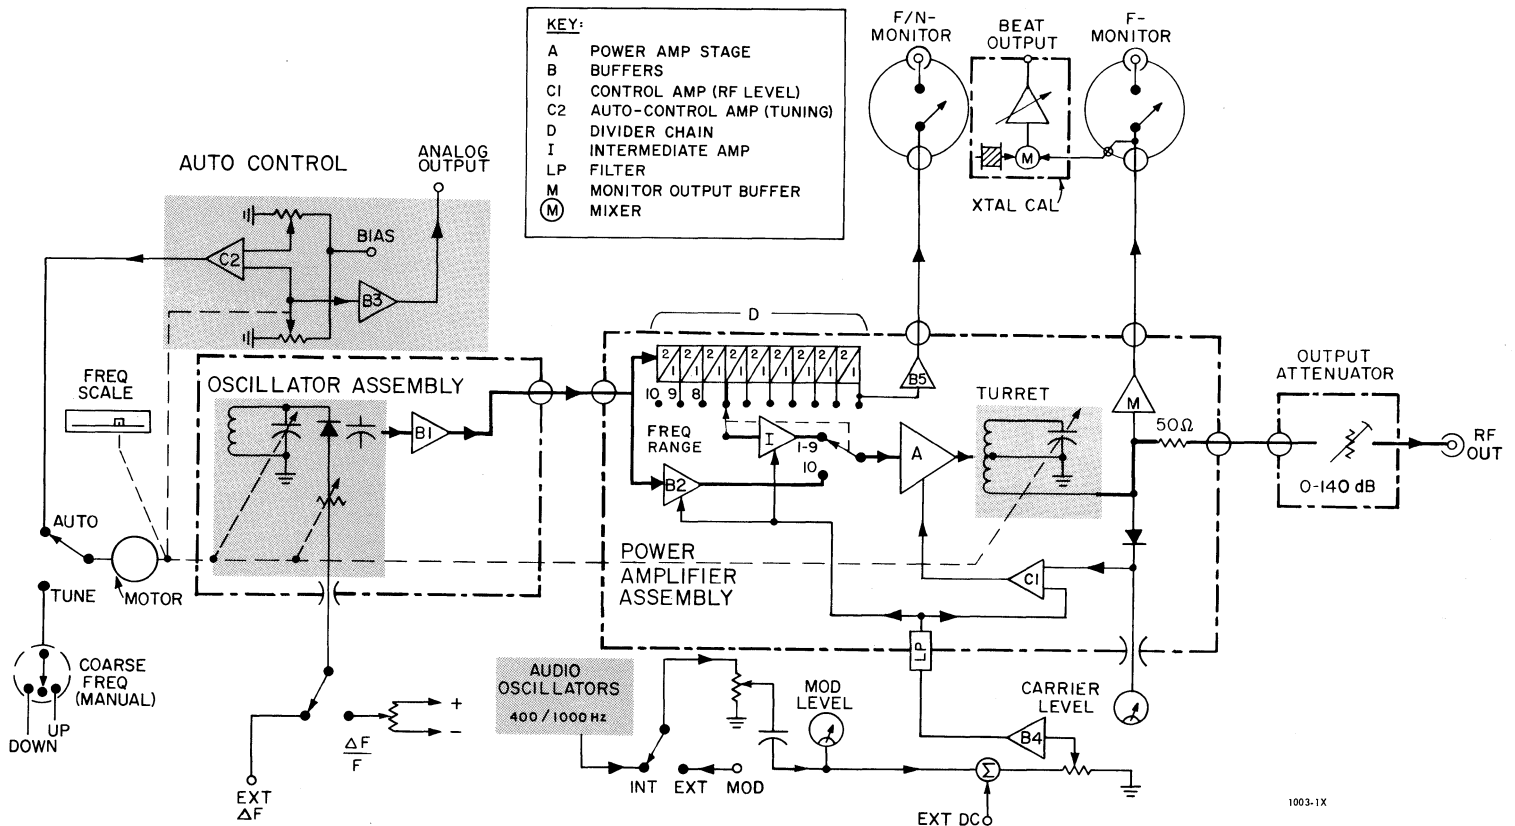

Figure 4-1. Elementary block diagram.
Refer to Figure 4-1, the elementary block diagram for the 1003 Standard-Signal Generator, for the following discussion. The heavy lines in this diagram show the flow of the main rf signal from its source in the oscillator assembly to the final output from the attenuator.
4.2.1 GENERAL (Figures 4-1 and 6-1).
Since the rf sample for the crystal calibrator is taken from the F-MONITOR channel (see Figure 4-1), a high degree of isolation is realized, providing a reverse attenuation of well over 100 dB between crystal calibrator and main output. As a result, the crystal calibrator can be used without fear of contaminating the main output with spurious sidebands.